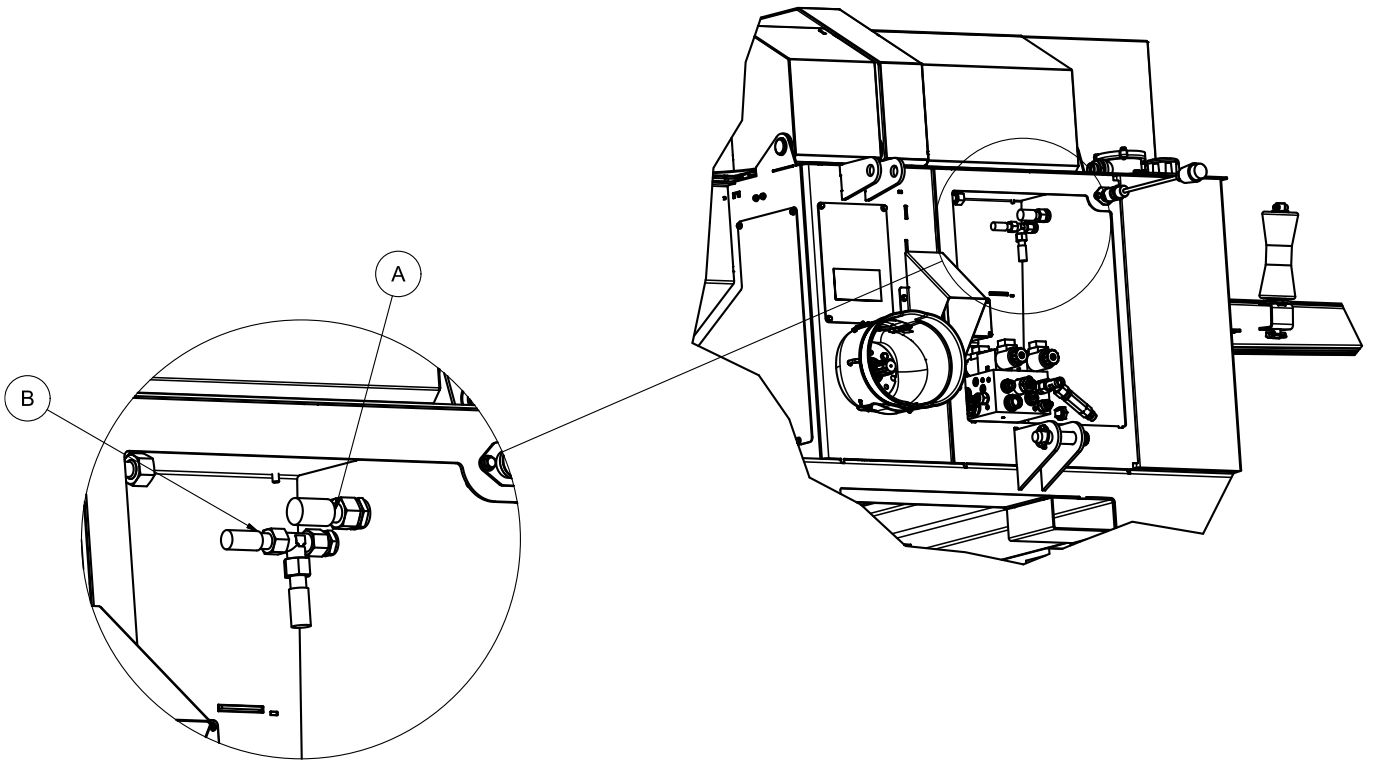

Figure 3 Without cooler
2. Disconnect the A and B in Figure 3, unscrew hydraulic fitting B from tank. On coupling B is a small washer inside the connector to be included when installing the connector in the cooler.